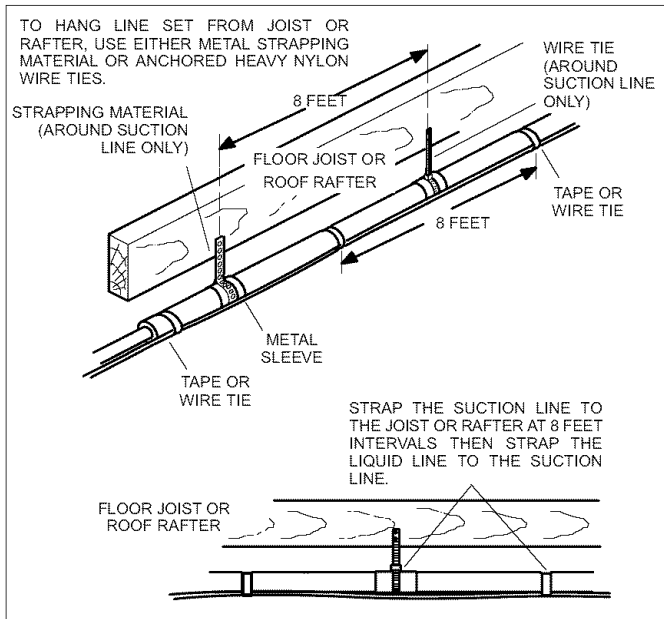

Figure 10. Refrigerant Line Set: Installing Horizontal Runs
- Installation of **line set on horizontal runs** is illustrated in figure 10.